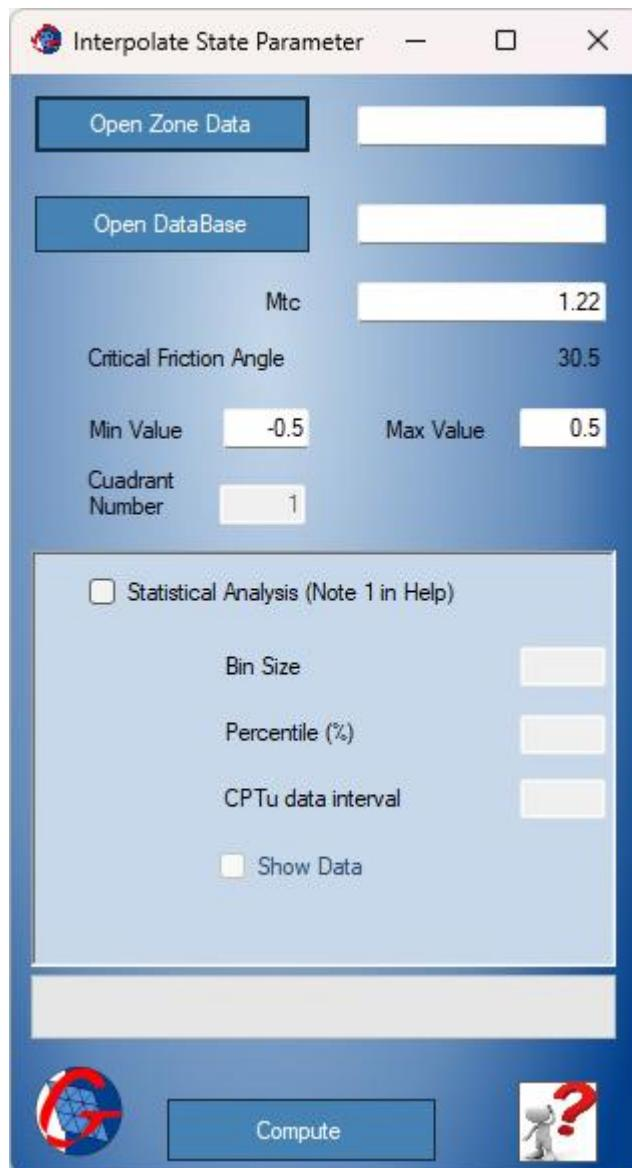

Figure 13: Interpolate State Parameter dialog window.
- **Interpolate State Parameter:** Opens the dialog window shown in Figure 13. This option interpolates the state parameter for an already existing FLAC3D® model. This option can use a state parameter (from example, for a pre processed Excel spreadsheet) and interpolate the state parameter across the mesh domain. Also, it can use advance options, such as either Jefferies (1992) and Plewes (1992), or Shuttle and Cummings (Widget, 2007) and internally compute the state parameter. Using these last two options over more traditional methods, allows taking into consideration the variability of the stress ratio or K0 conditions.